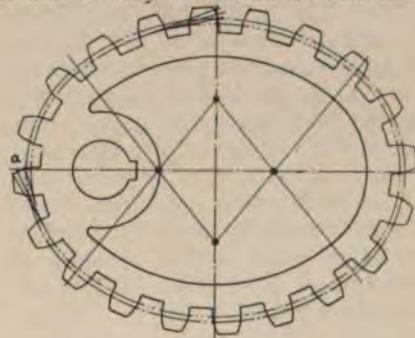

Fig. 7.
A graphical solution for formula (9) sometimes convenient is as follows: In Fig. 7 draw the rectangular axes  $xx$  and  $yy$ , and lay off a unit of the selected scale on  $xx$ . Also on  $xx$  lay off the arms at which the reactions act,  $a$ ,  $b$ , and  $c$ , obtaining points  $A$ ,  $B$ , and  $C$ . At these points erect perpendiculars, and also through these points pass arcs  $A1$ ,  $B3$  and  $C5$ , with  $o$  as center. Through the points 1, 3, 5, where these arcs cut the perpendicular from the unit point, pass radial lines from  $o$ , and extend them to meet the respective perpendicular from  $A$ ,  $B$ , and  $C$  at points 2, 4, and 6 respectively. Then
If the number is odd, the major axis must bisect a tooth and a space, and in this case the gears can be turned over or if its other foci can be used as a center, it may have a tooth from the major axis as at *a* Fig. 7.